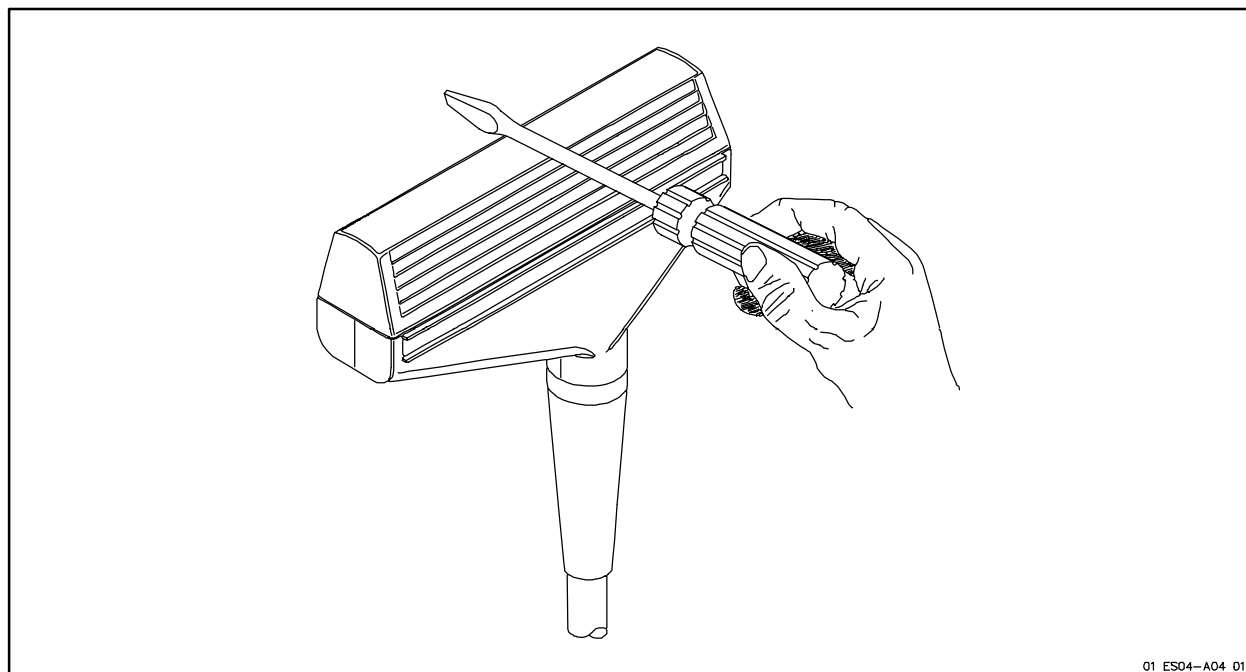

Figure 4-13. Tower Test
7. Hold a thin screwdriver perpendicular to the surface of the scanhead and slowly slide it down the scanhead using minimal pressure on the screwdriver (Figure 4-13).